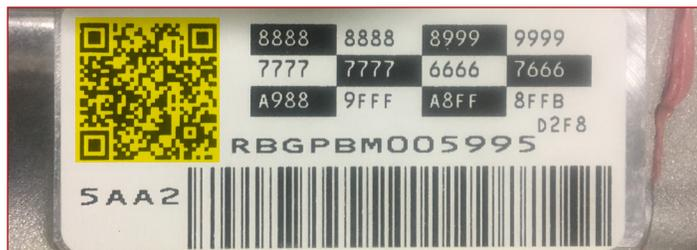

Fig. 1. Sample of a 6-Speed (Model A6MF1-2) Automatic Transmission Label. QR code is highlighted yellow.
In the event of a TCM or Automatic Transmission assembly replacement, certain 2017 model year Kia vehicles fitted with the 6-speed automatic transmission (model A6MF1-2), found in the Forte (YDm), Soul (PS), and Sportage (QL) now require transmission label data to be entered using KDS during reprogramming. (See Fig. 1)
Figure 1, above, shows the transmission label containing the transmission hydraulic pressure parameter values in the form of either a 68-digit sequence of numbers and letters or a "Quick Response Code" popularly known as a QR code (see Fig. 1).